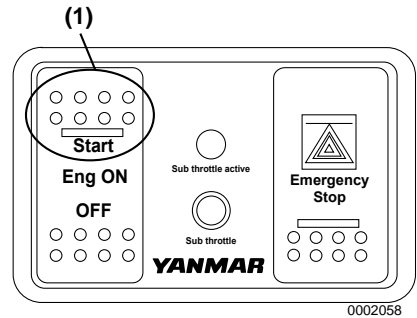

Figure 3
5. Press the Eng ON (**Figure 3, (1)**) switch and the following changes occur:
To start the engine, press Start (upper half) of Eng ON switch (**Figure 3, (1)**).